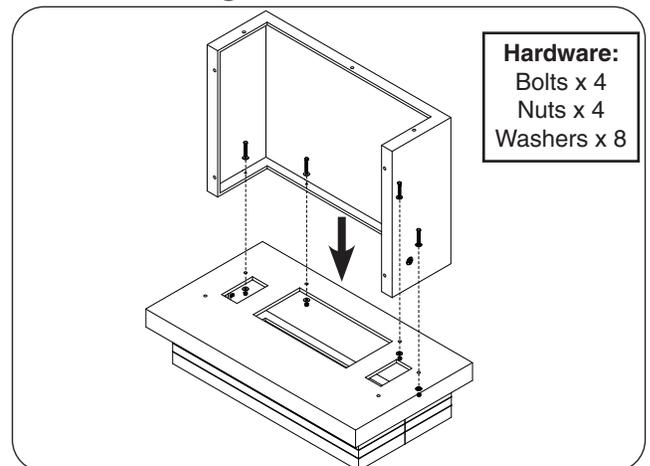

Fig. 20-4 Assemble body
2. Place the body piece on top of the shelf. Carefully align the pilot holes, and repeat the hardware installation process. See Fig. 20-4.